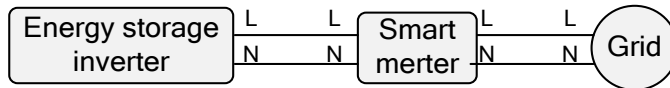

Figure4-4 Smart meter wiring
- If inverter is equipped with smart meter, connect the neutral wire and live wire of AC switch K3 with L, N ports in the input of smart meter. Connect L, N ports in the output of smart meter with total grid switch K6, as shown in Figure4-4.